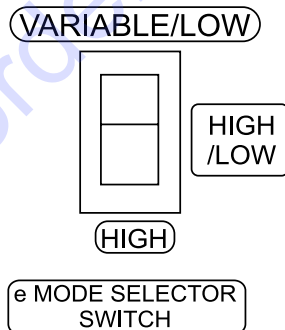

Figure 39. E-Mode Selector Switch (CV Mode)
3. Place e-Mode selector switch (Figure 39) in the desired position as defined by Table 21 or Table 22. This switch is a 3-position rocker switch.